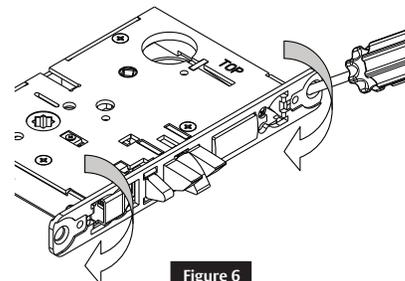

Figure 6
5. Rotate lock front to match bevel of door, as shown. (Figure 6)